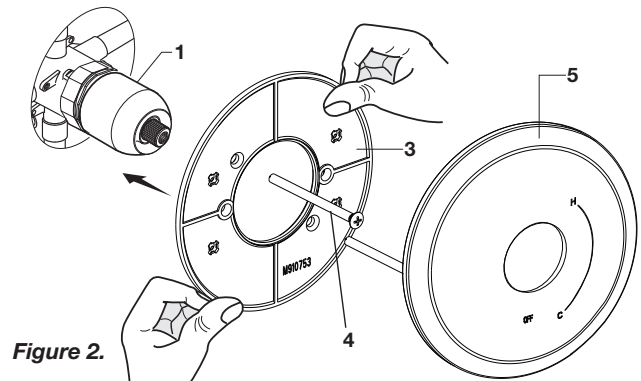

Figure 2.
- **Figure 2.** Push MOUNTING PLATE (3) onto CAP (1) and attach to valve body with LONG SCREWS (4).
- **Figure 2.** Push ESCUTHEON (5) on to MOUNTING PLATE (3).